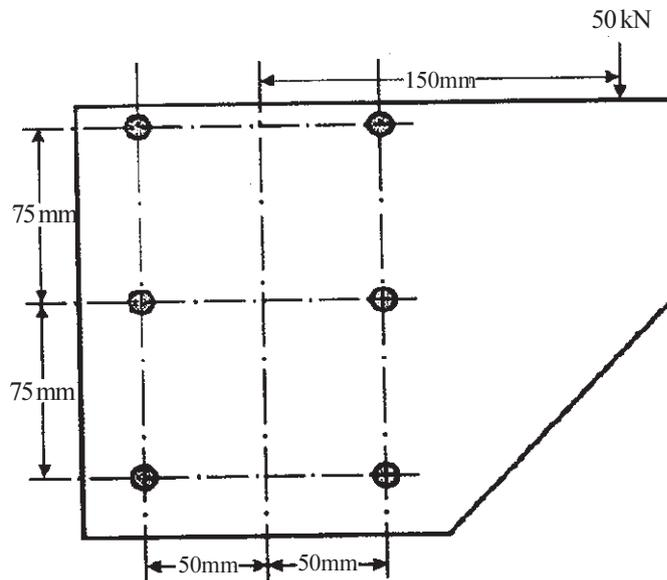

Fig.1
- Q6)** A bracket is bolted to column by 6 bolts of equal size as shown in fig.1. It carries a load of 50kN at the distance of 150mm from the centre of column. If the maximum stress in the bolts is to be limited to 150N/mm2. Determine the core diameter of bolts. [16]